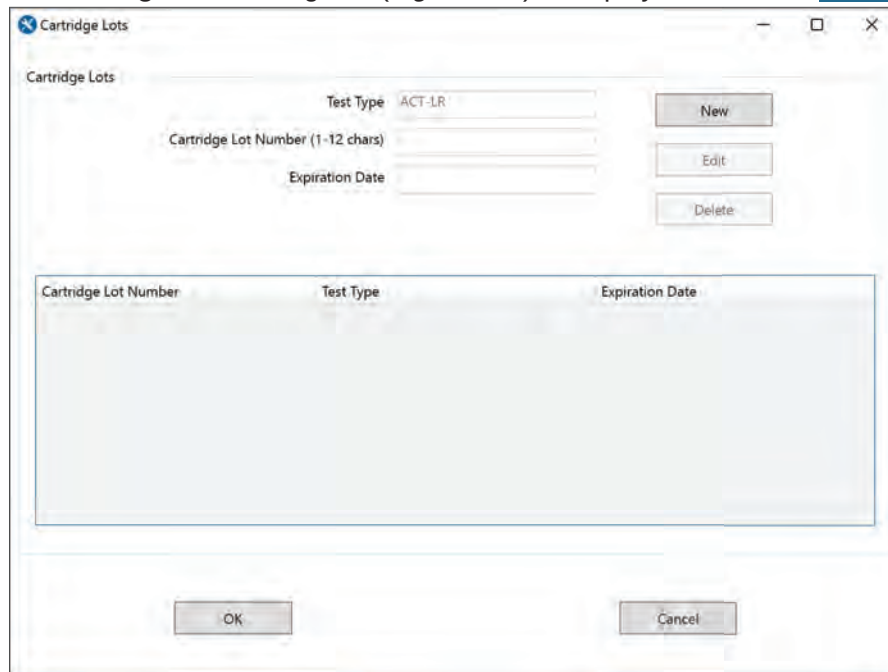

Figure 100: CCM – Cartridge Lots Dialog Box
The **Cartridge Lots** dialog box (*Figure 100*) is displayed.
- 4 Click **OK** to save the changes (*Figure 100 (page 89)*).
NOTE: To edit or delete a test cartridge lot, select the test cartridge lot from the list (*Figure 100 (page 89)*) and the appropriate button (**Edit** or **Delete**).